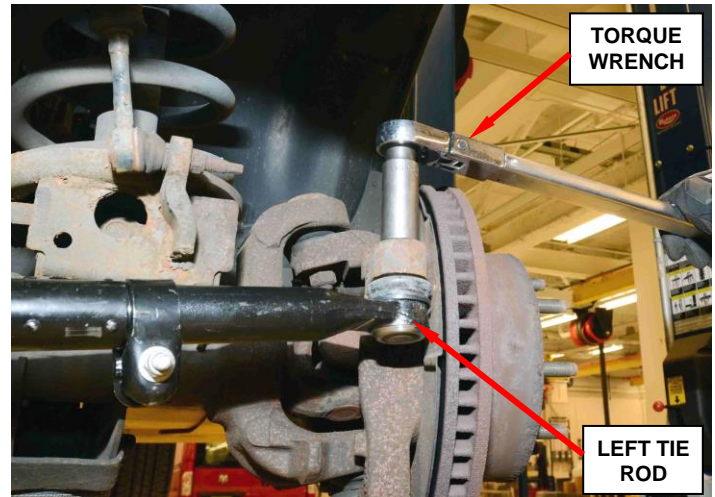

Figure 7 – Tighten Tie Rod Nut (Left Side Shown)
15. Tighten the new right and left tie rod nuts to 80 ft. lbs. (108 N·m) (Figure 7).